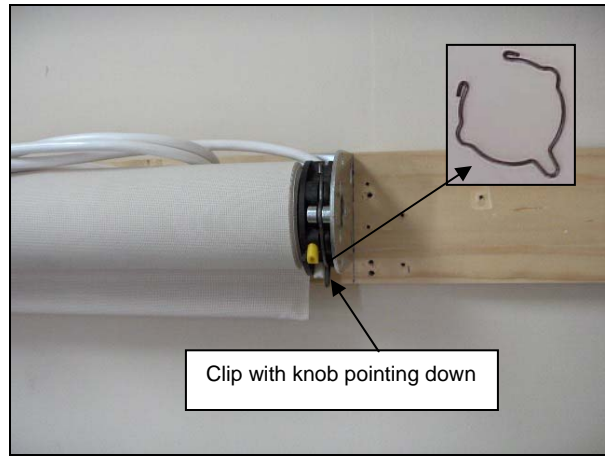

Figure 22 Motor in Bracket with Motor Retaining Clip in Place
- **Important! Follow This Step!** The motor will remain in the brackets, but to ensure that it does not slip out of the installation, attach the motor retaining clip into the groove on the pins and motor. The clip should snap into position when it has been properly inserted into the groove on both pins. See Figure 22.